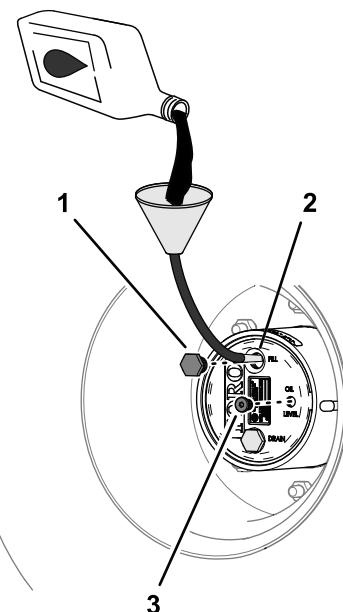

Figure 87
4. If the oil level is low, remove the fill plug and add the specified oil until it begins to flow out of the hole for the check-plug (Figure 87).
6. Install the fill plug and the check plug (Figure 87).
1. Through the fill-plug hole, slowly add the specified gear lube; refer to Figure 87 in Checking the Planetary-Gear-Drive Lubricant \(page 63\).
3. Install the fill plug and oil level plug; refer to Figure 87 in Checking the Planetary-Gear-Drive Lubricant \(page 63\).